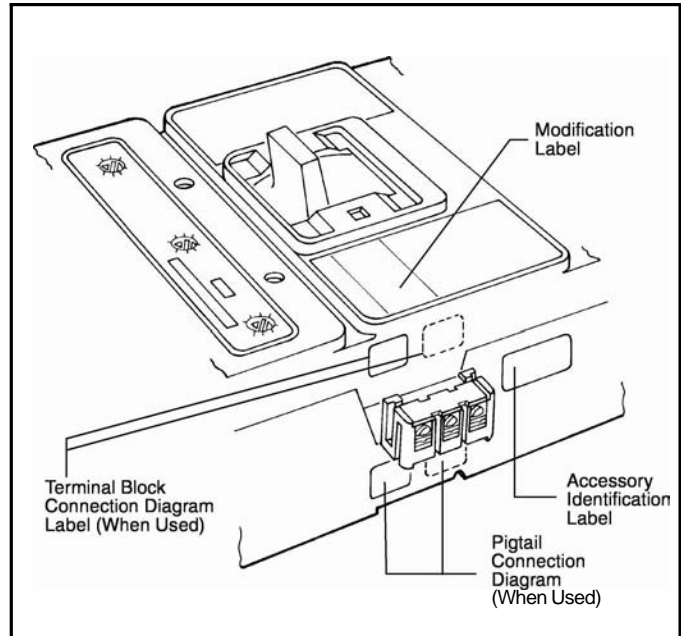

Fig. 2-5 Preferred Mounting Locations for Accessory Nameplate Labels
- 2.9. Place accessory labels (supplied with kit) on circuit breaker. (See Fig. 2-5.)